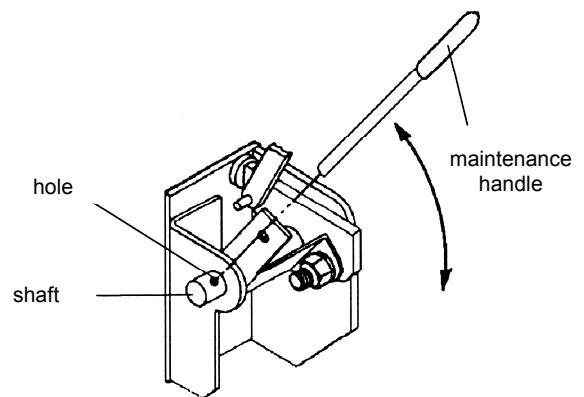

Figure 3. Maintenance handle and positions.
1. After deenergizing both power sources, open the enclosure door. Locate the maintenance handle on the left side of the transfer switch. Insert the maintenance handle into the hole in the shaft, left side of the operator. See Figure 3